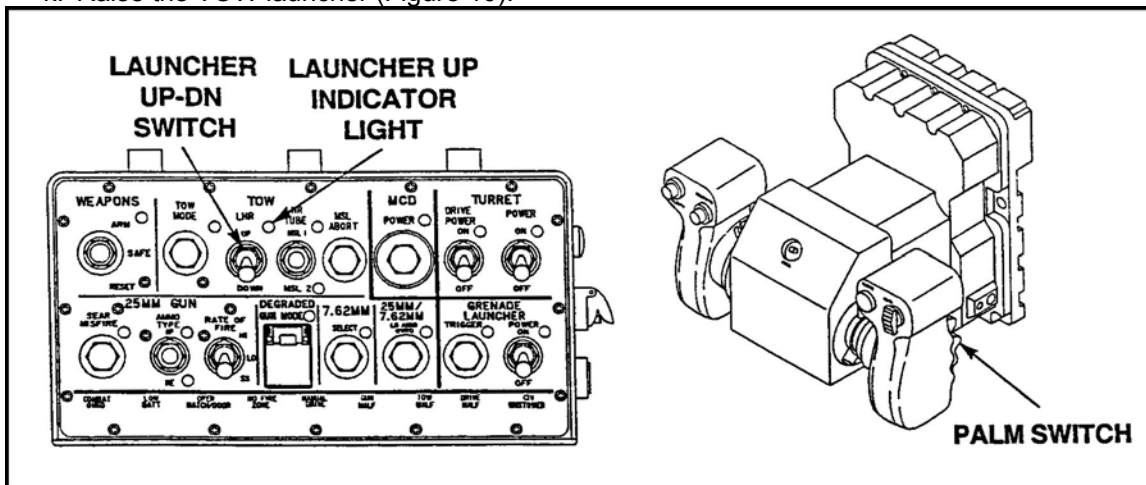

Figure 10. TOW launcher switch.
- (4) Adjust sight picture, as necessary, using the LEVEL, GAIN, FOCUS, BRIGHTNESS, or CONTRAST switches on the CSCP.
k. Raise the TOW launcher (Figure 10).